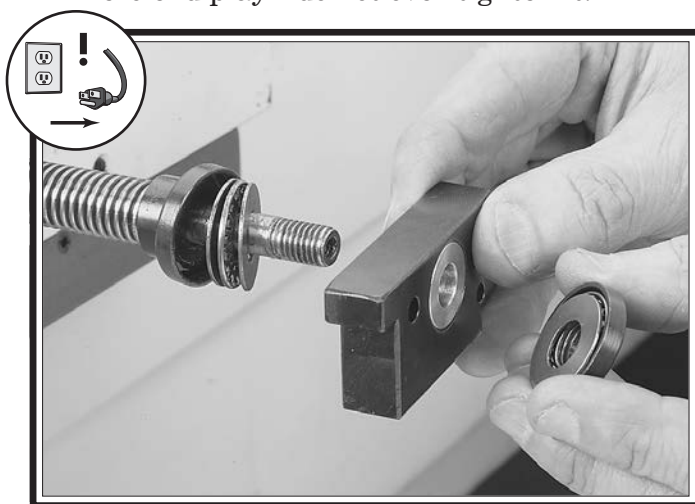

Figure 11. End bracket and outer bearing assembly installation.
- 13.** Install the inner bearing assembly, the end bracket, and the outer bearing assembly onto the leadscrew in the order shown in **Figure 11**, then secure them with the leadscrew lock nut removed in **Step 6**.